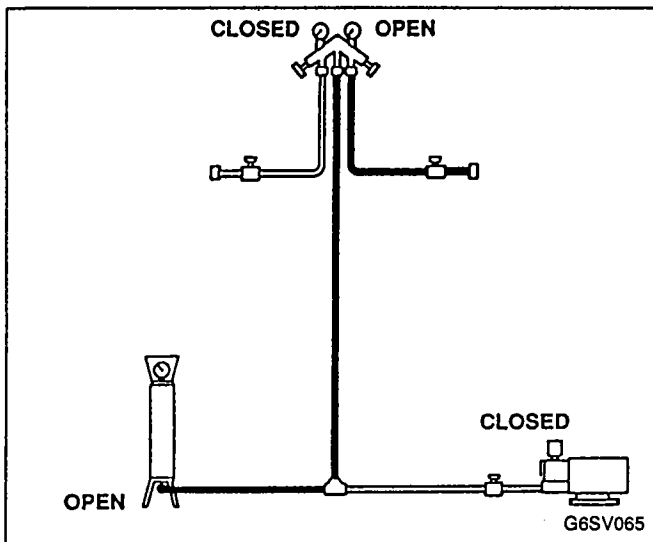

FIGURE 70. RECHARGING OF SELF-CONTAINED SYSTEMS
1. Ensure toggle switch is in OFF position. Refer to Figure 70 and recharge system.